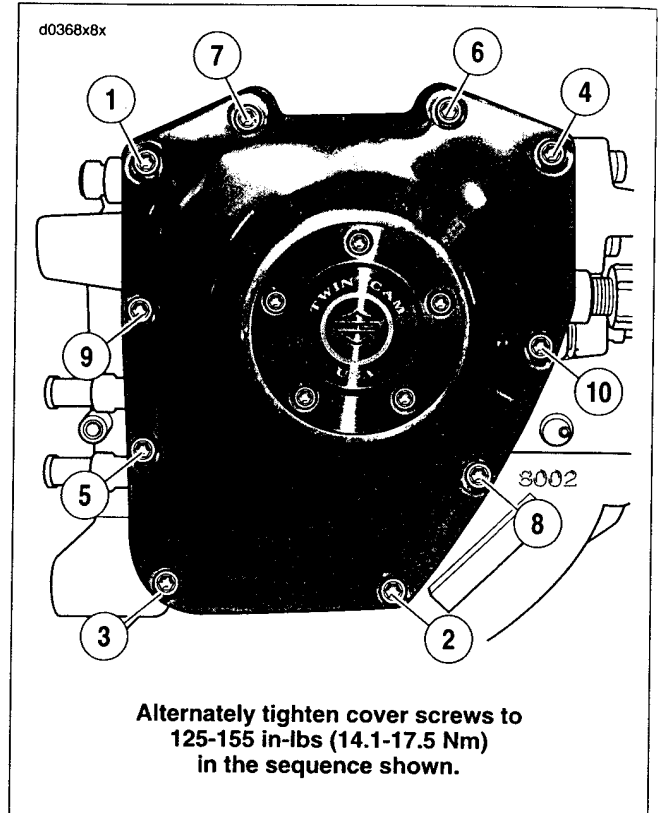

Figure 3-77. Cam Cover Installation
20. See Figure 3-77. Install the cam cover using ten allen head socket screws (1/4 x 1-1/4 in.). Following the sequence shown, alternately tighten the screws to 125-155 in-lbs (14.1-17.5 Nm). If cam cover assembly was completely removed continue as follows.